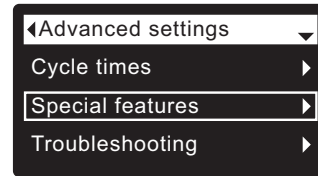

FIG. 82
3. Press the SELECT (O) button to display the Advanced settings menu (See Figure 82).